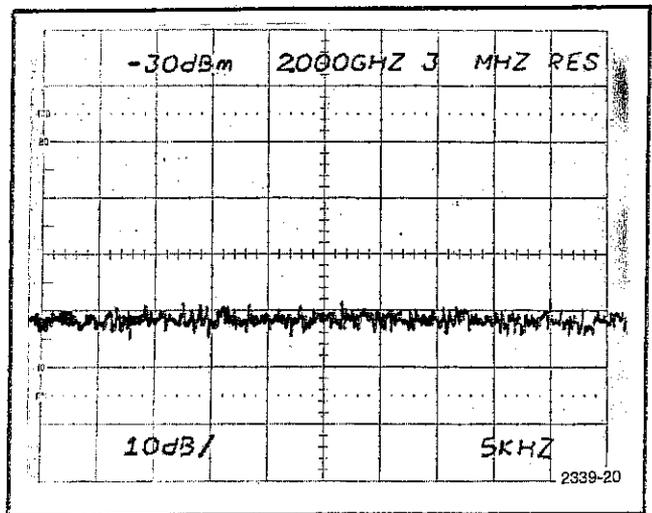

Fig. 4-6. Measuring Average Noise Level as an Indication of Sensitivity.
c. Check—noise level below the -30 dBm reference level (see Fig. 4-6). Must not exceed -79 dBm (see Table 4-5).